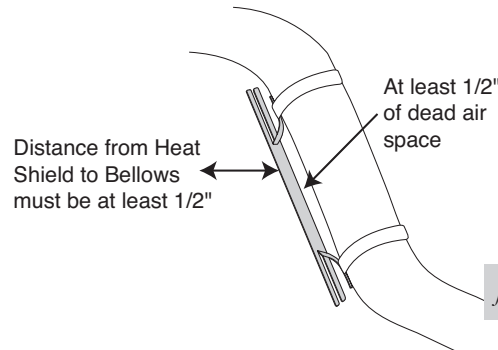

fig. 14
2. Attach the heat shield (Q) to the exhaust pipe using the clamps (R) (Fig. 14). Bend the heat shield for maximum clearance to the air spring.